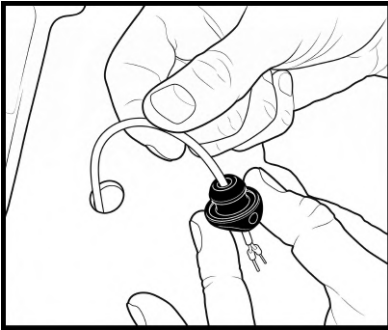

Fig. 27
3.21 Install the rubber seal onto the magnet cable by pressing the cable into the longitudinal slot and routing it through the side opening. **(Fig. 27, 28)**